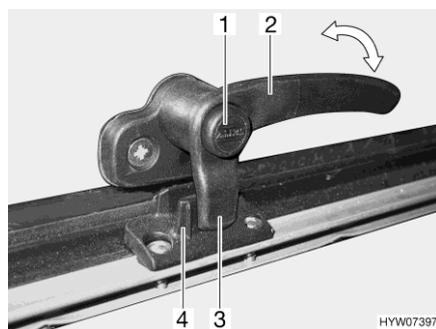
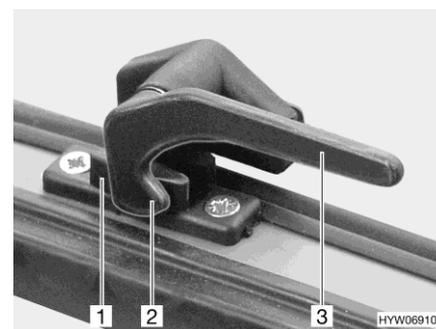

Fig. 112 Catch lever with safety knob in "closed" position
Fig. 113 Catch lever in "closed" position
- Press and hold the security button (Fig. 112,1), if present.
- Turn the catch lever (Fig. 112,2 or Fig. 113,3) a quarter turn towards the centre of the window.
- Turn the catch lever (Fig. 112,2 or Fig. 113,3) a quarter turn towards the window frame.
- The locking catch (Fig. 112,3 or Fig. 113,2) on the catch lever is entirely on the inner side of the window catch (Fig. 112,4 or Fig. 113,1).
- "Firmly closed" (Fig. 112 and Fig. 113)